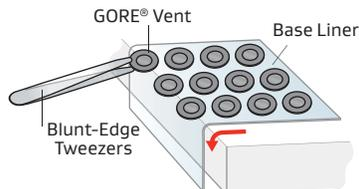

Figure 2: Manually dispensing an Adhesive Vent
- Blunt-edged tweezers may be used to remove the vent gently from the liner (Figure 2)